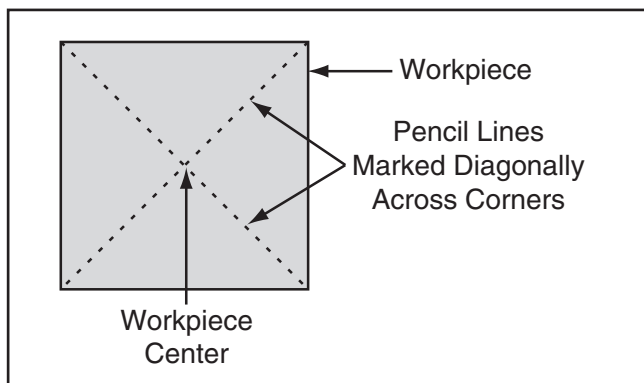

Figure 45. Workpiece marked diagonally from corner to corner to determine the center.
1. Find center point of both ends of your workpiece by drawing diagonal lines from corner to corner across end of workpiece, as shown in **Figure 45**.